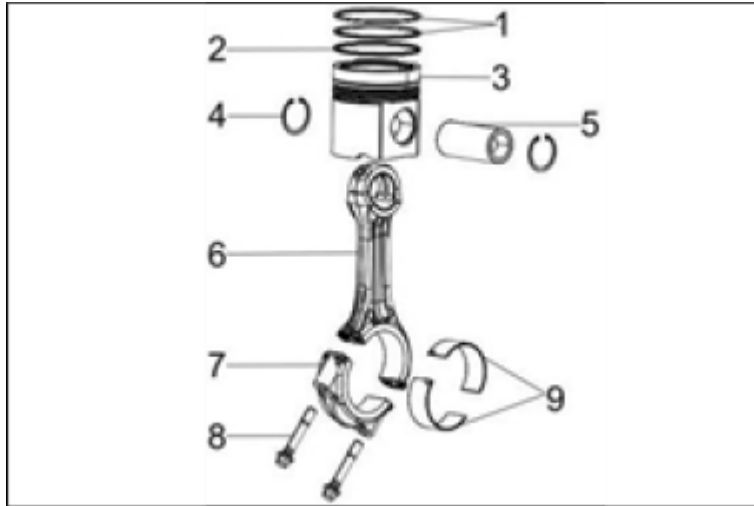

Figure 92.
14. Remove the connecting rod bearings (Figure 92, Item 9).
15. Remove the compression rings (Figure 92, Item 1) from the piston using a piston ring expander.
16. Remove the oil ring (Figure 92, Item 2) from the piston using a piston ring expander.
17. Remove the circlips (Figure 92, Item 4) from the piston pin.
18. Remove the piston pin (Figure 92, Item 5) and connecting rod (Figure 92, Item 6) from the piston (Figure 92, Item 3).